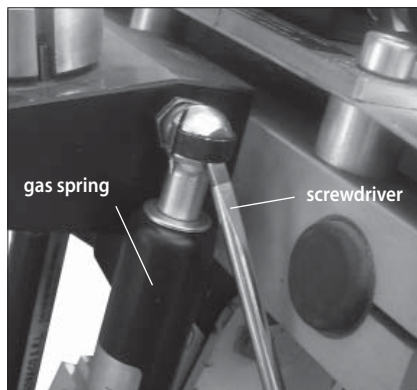

FIG. 15
6.1.4) Changing the gas springs (Ref. to Fig. 15)